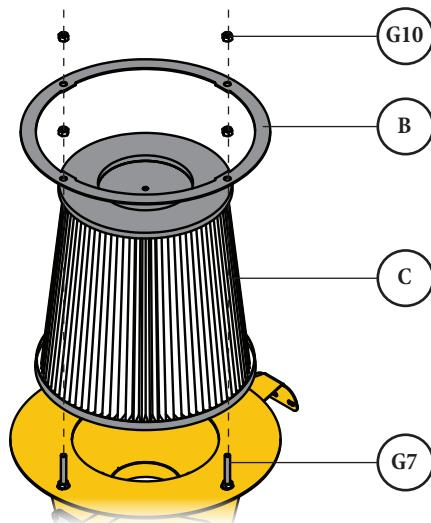

FIG. 16
16 Slide the Filter Hold-Down Ring (B) over the Filter (C) and the previously installed bolts (G7) and secure in place using four Nylock Nuts (G10) [FIG. 16].